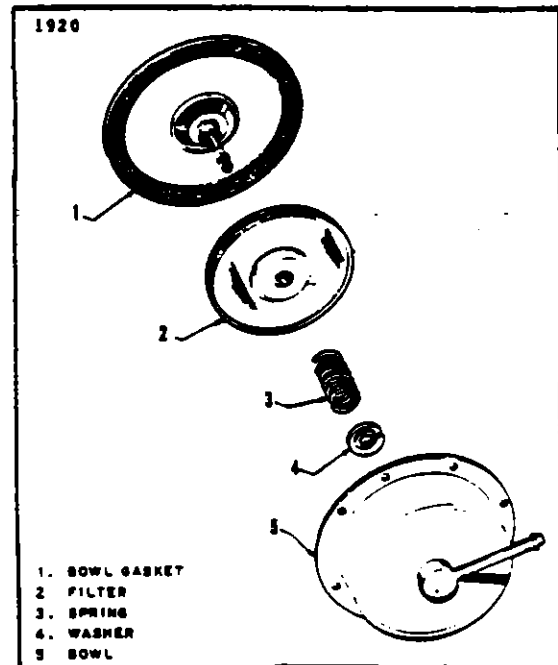

FIGURE 8-14. FUEL STRAINER DISASSEMBLED, PA-24-400
- d. Remove filter disc assembly from center stem by compressing filter retainer spring and removing filter retainer washer. (Refer to figure 8-14)